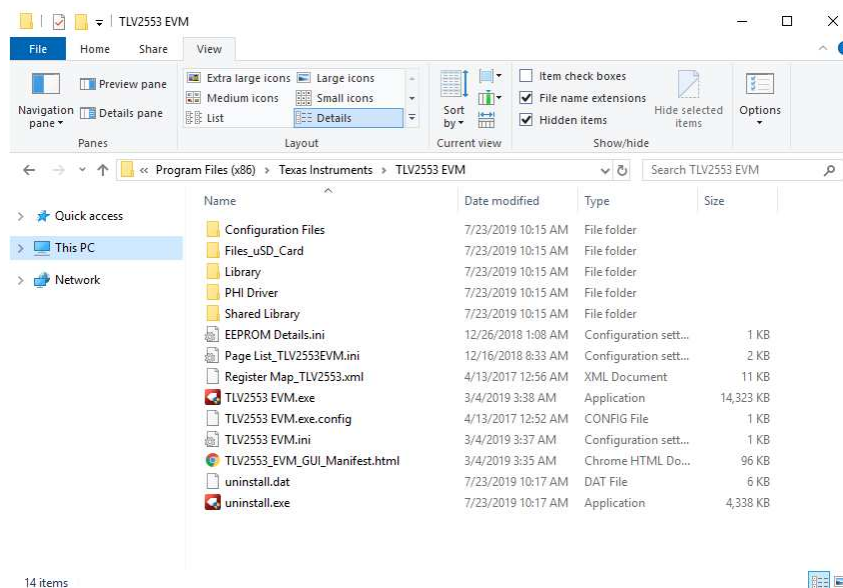

Figure 9. Launch the EVM GUI Software
4. Double-click on the *TLV2553 EVM.exe* file to launch the TLV2553EVM-PDK GUI software. The TLV2553EVM GUI software folder is shown in Figure 9.